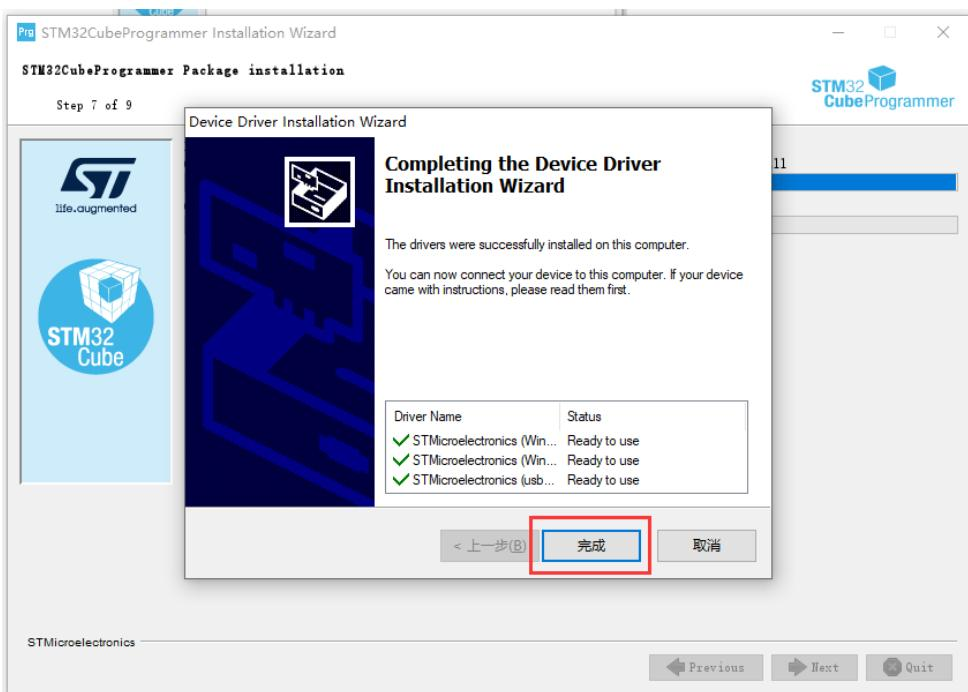

Figure 8-8
- 9) Click "Done" as shown in Figure 8-8